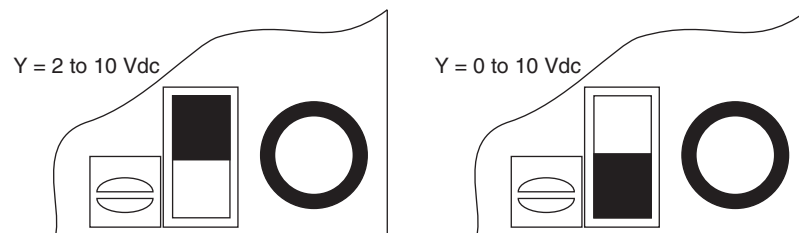
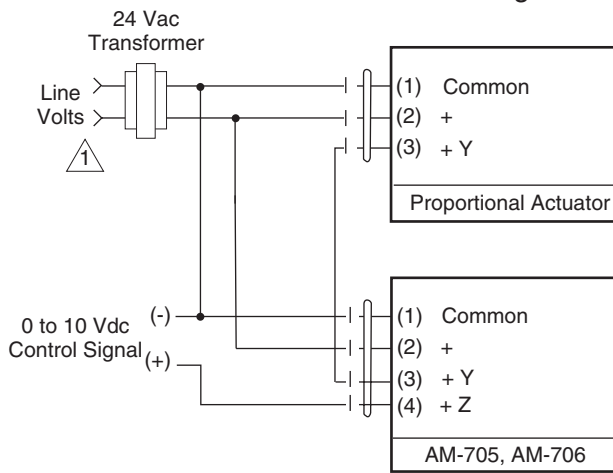

Figure-8 AM-706 Output Switch Settings.
Figure-13 AM-705 and AM-706 Wiring Diagram.
- Connect wires (Figure-13) and set output switch to either 2 to 10 Vdc or 0 to 10 Vdc (Figure-8).
2. Set the output to 2 to 10 Vdc or 0 to 10 Vdc (Figure-8).
7. Connect wires (Figure-13).